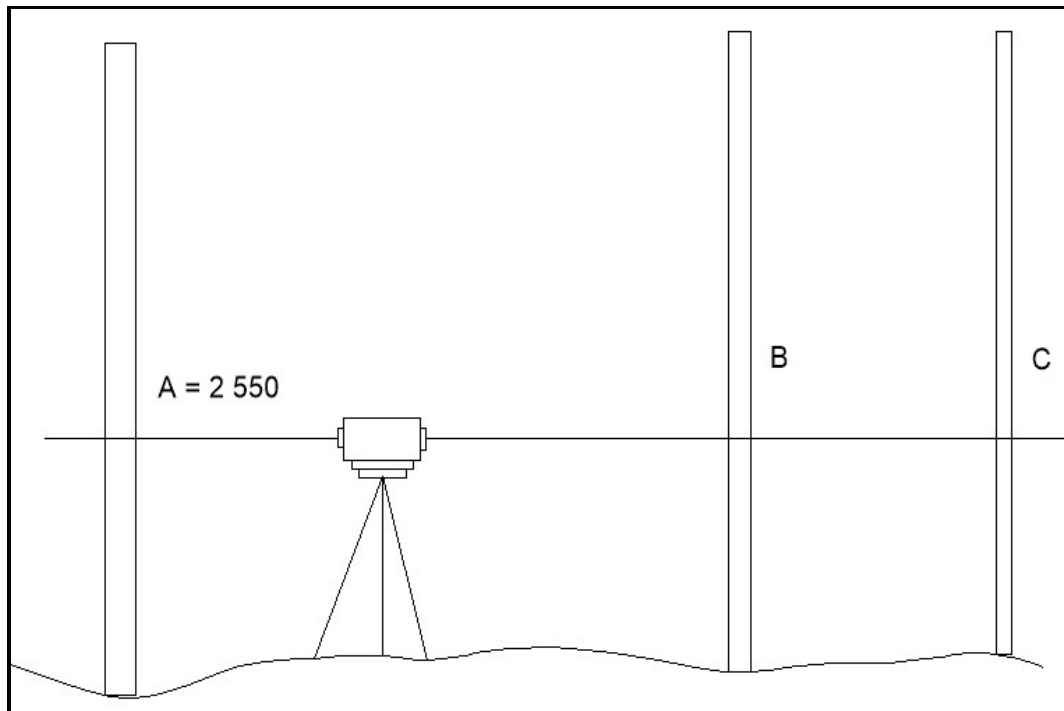

FIGURE 2.5
2.5 FIGURE 2.5 shows a dumpy level on a site with different readings taken at specific points. Study the diagram and answer the following questions: